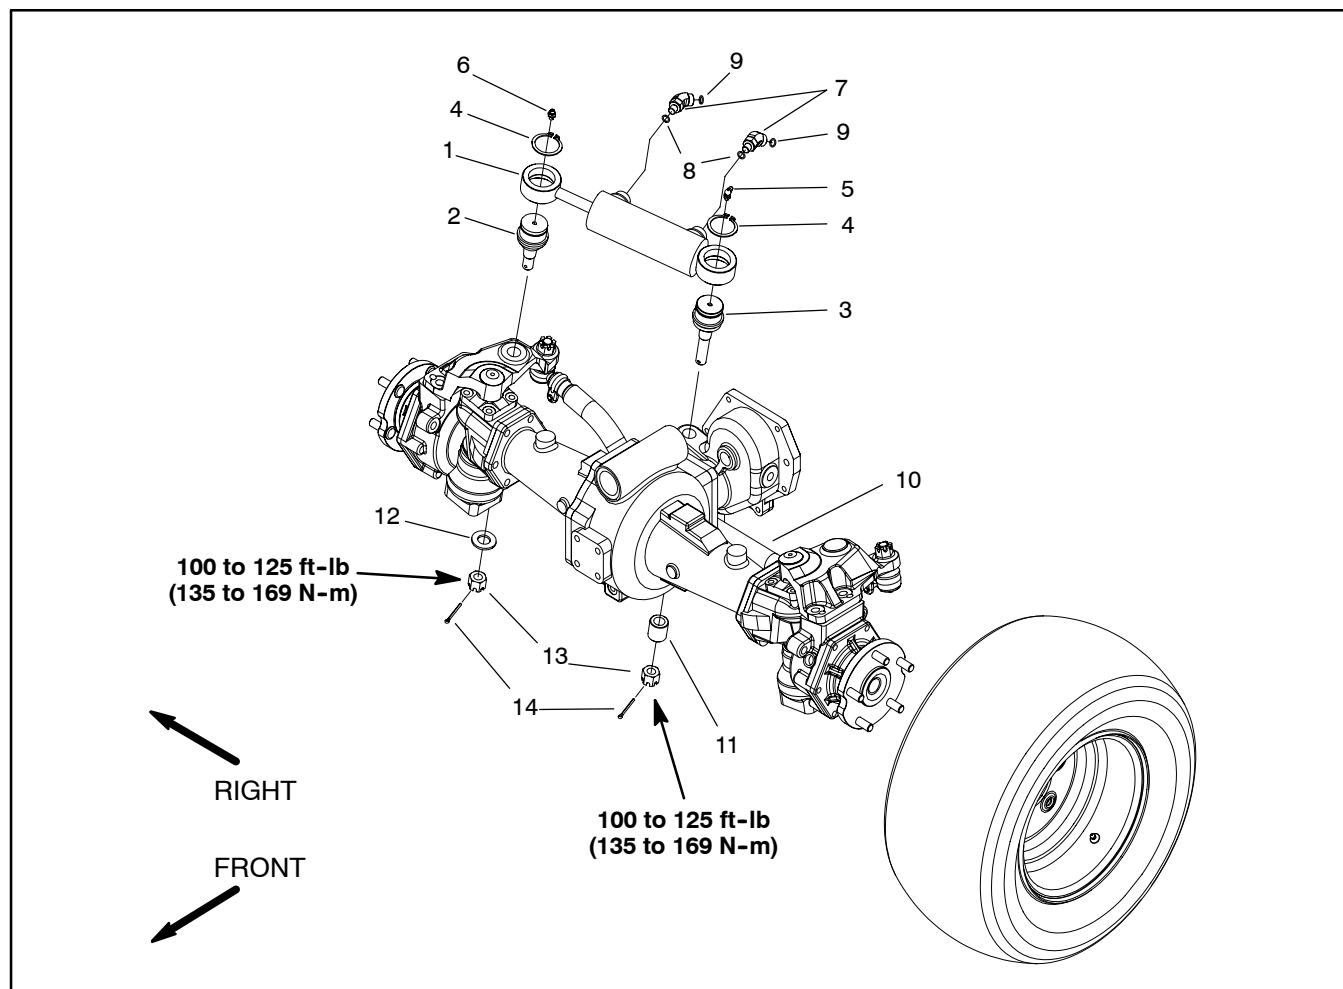

Figure 83
**Removal (Fig. 83)**
5. Remove cotter pins, hex slotted nuts, axle washer, and ball joint spacer from the threaded ends of ball joints (Fig. 83). Remove steering cylinder with ball joints from machine.
**Installation (Fig. 83)**